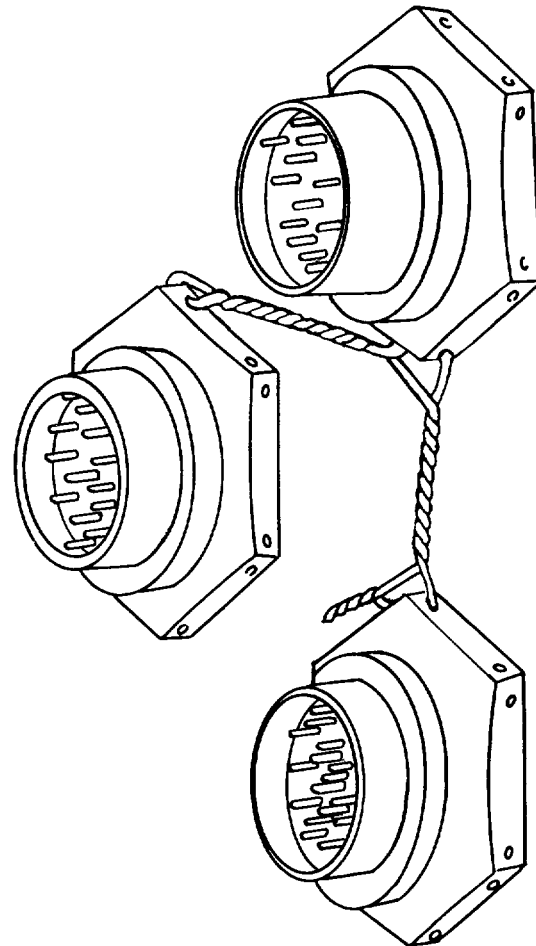

Figure 8. Lockwiring Jam Nut Receptacles
19. **JAM NUT RECEPTACLES.** Jam nut receptacles shall be lockwired using the double twist method using the thru holes in the jam nut to another jam nut. Up to three jam nuts may be lockwired together (Figure 8) When only one jam nut receptacle is used, the nut must